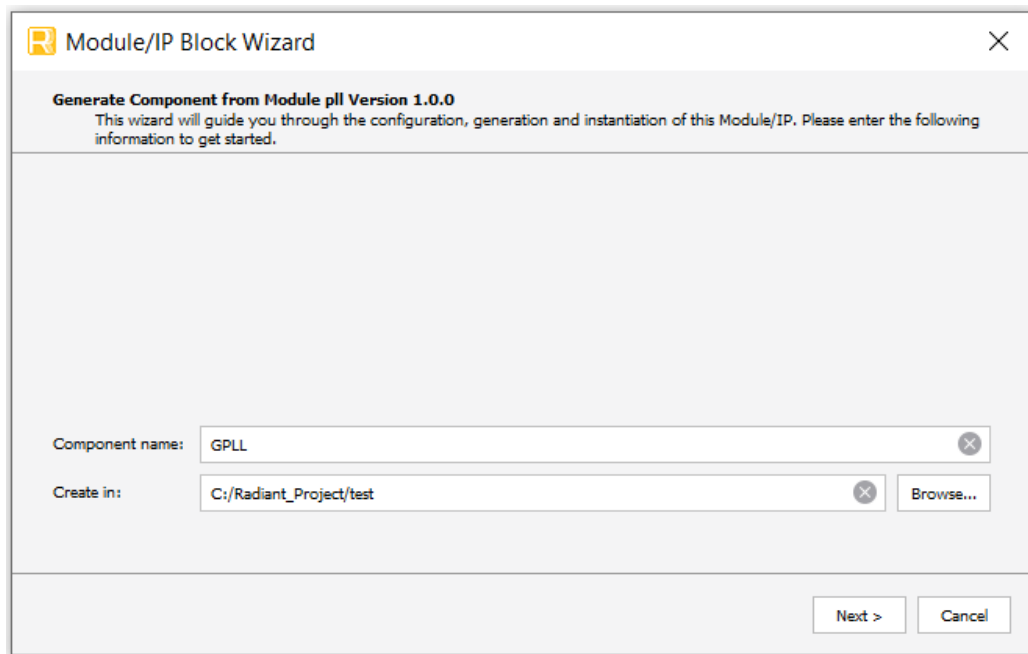

Figure 3.1. Configure Module/IP Block Wizard
2. In the **IP Catalog** tab, double-click on **PLL** under **Module, Architecture_Modules** category. The **Module/IP Block Wizard** opens as shown in Figure 3.1. Enter values in the **Instance name** and the **Create in** fields and click **Next**.
- Click **Finish**. All the generated files are placed under the directory paths in the **Create in** and the **Instance name** fields shown in Figure 3.1.